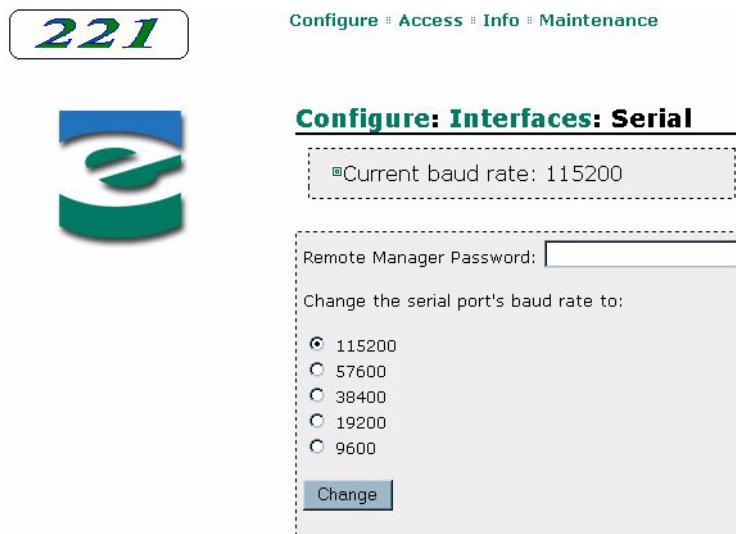

Figure 6-10 Remote management utility – Serial Interface Configuration page
3. Click on Configure the serial interface. A page similar to Figure 6-10 appears.